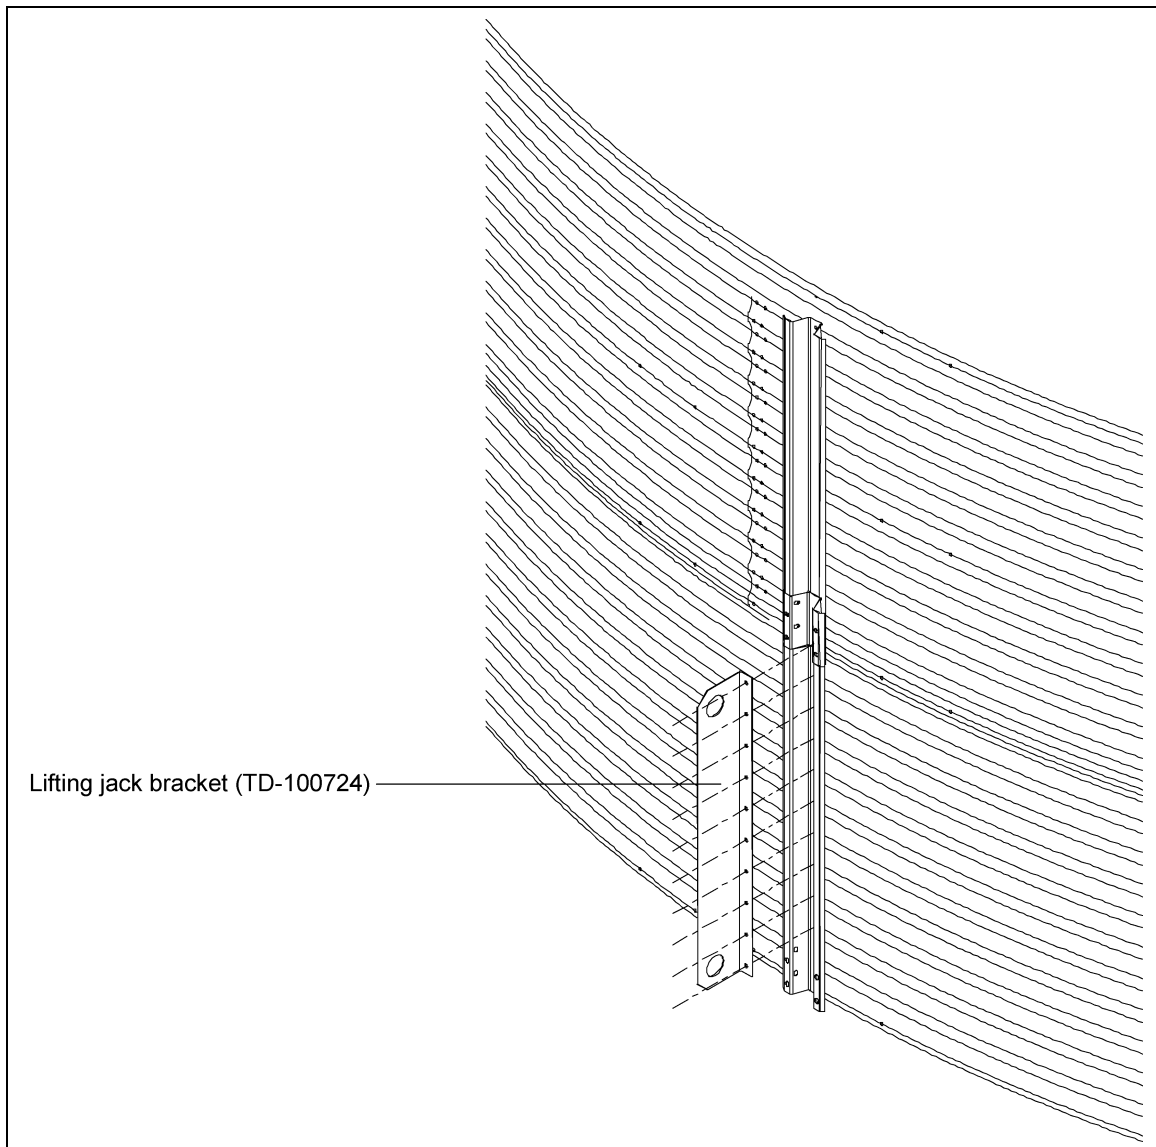

Figure 5D
**NOTE:** *The number of lifting jacks required is best determined by personal experience. Factors such as bin size, soil compaction, wind velocity, jack design, etc., are all to be considered when deciding how many to use. If in doubt, use one jack on every other stiffener. GSI recommends heavy duty jacks rated at 6000 lbs. or more. (See Figure 5D.)*